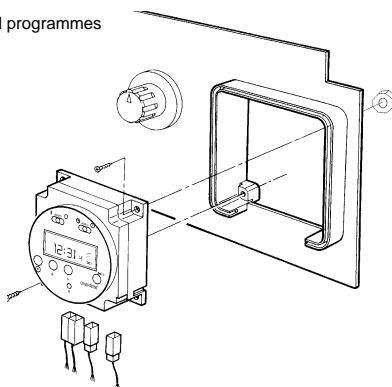

Fig. 43
- Remove the time clock from the control panel (fig. 43).
- Re-assemble in reverse order (refer to fig. 43 for replacement of the time clock).